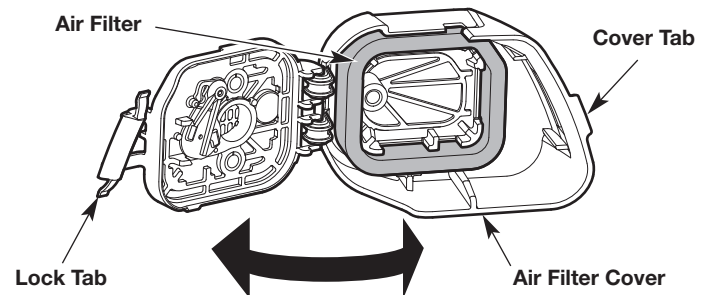

Fig. 19
1. Open the air filter cover: Hook your fingers behind the cover tab. To unlock the air filter cover, pull it to the left and away from the engine. This may require a firm pull. Swing the air filter cover to the right (Fig. 19).
2. Remove the air filter from inside the air filter cover (Fig. 19).
6. Reinstall the air filter inside the air filter cover (Fig. 19).
7. Close the air filter cover: swing the air filter cover to the left and press it closed until the lock tab snaps into place (Fig. 19).